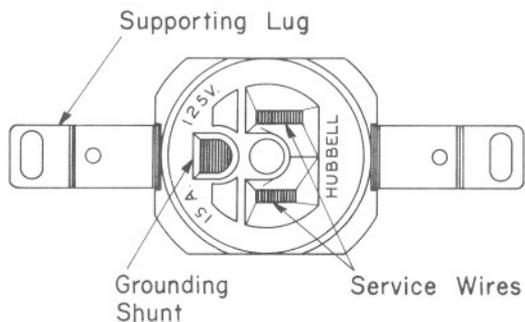
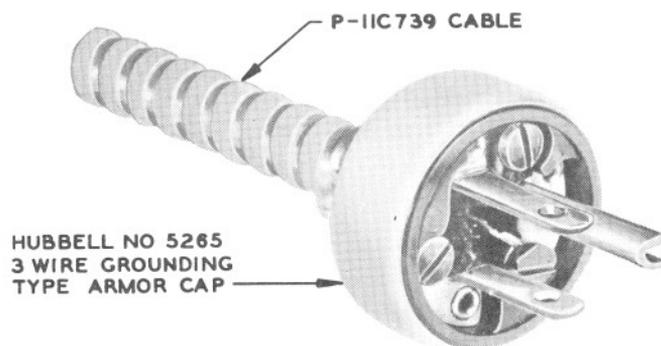

Fig. 4 — Hubbell No. 5261, 3-wire Grounding-type Convenience Outlet
Fig. 5 — Hubbell No. 5265, 3-wire Grounding-type Armor Cap
5.08.1 Power Cables per Figures 5 and 6 - The P-370288, P-349648, and P-349649 power cables are not standard for use in this Region. Any reference in this section to these cables shall be understood to mean the power cable P-11C739 e/w Hubbell No. 5265, 3-wire Grounding-type Armor Cap. The power cable per dwg. AS-1946 shall be used only for maintenance replacements to existing installations where this type power cord was originally installed, or where there are changes, moves, and additions to installations where the customer has provided the Hubbell twist-lock-type power receptacle. All new installations should use the power cable P-11C739 and the customer should
5.07 When a 3-wire grounding-type convenience outlet such as the Hubbell No. 5261 type is used (see Fig. 4), use a P-11C739 cable which is equipped with a Hubbell No. 5265, 3-wire grounding-type armor cap (see Fig. 5).